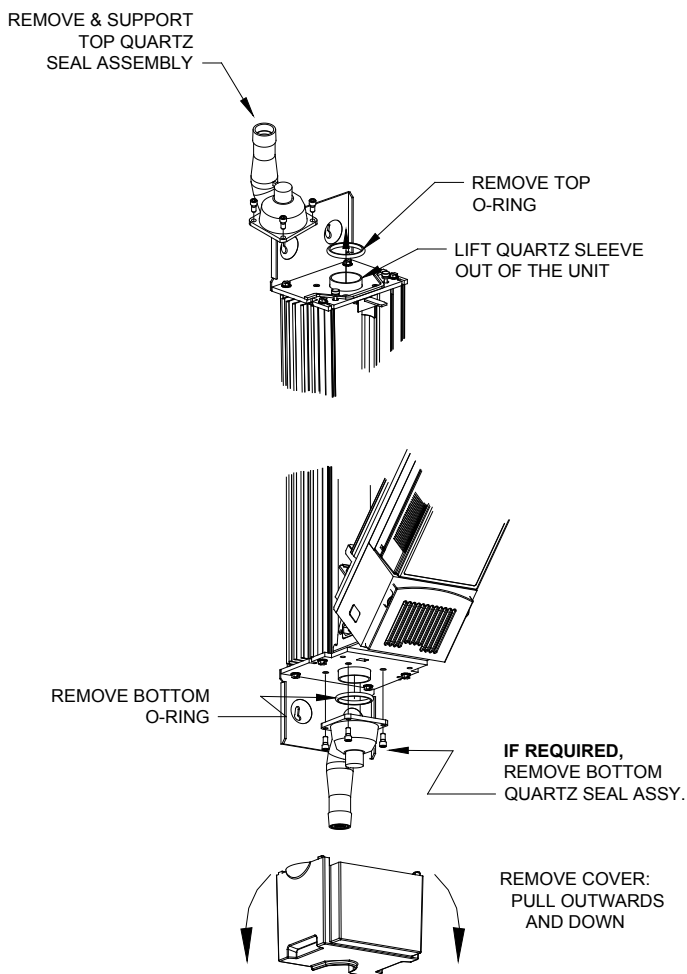

Figure 4B
See Figures 4B & 4C
Step 5: Remove the top quartz seal assembly (Figure 4B) by lifting it straight up.
Step 3: Once the quartz is clean, reassemble the system (see Figure 4B). During reassembly, replace any seals that appear to have been damaged.
Step 4: If the quartz is still not clean, it should be replaced. This is done by removing the bottom quartz seal assembly (see Figure 4B).
Step 6: Remove the quartz sleeve by removing the top and bottom O rings (13). Lift the quartz sleeve out of the system.
Step 9: Replace the bottom quartz seal assembly (see Figure 4B) by installing the four fasteners in an alternating pattern (top left, bottom right, bottom left, then top right). Ensure that the inlet connection port is at the backside of the unit.